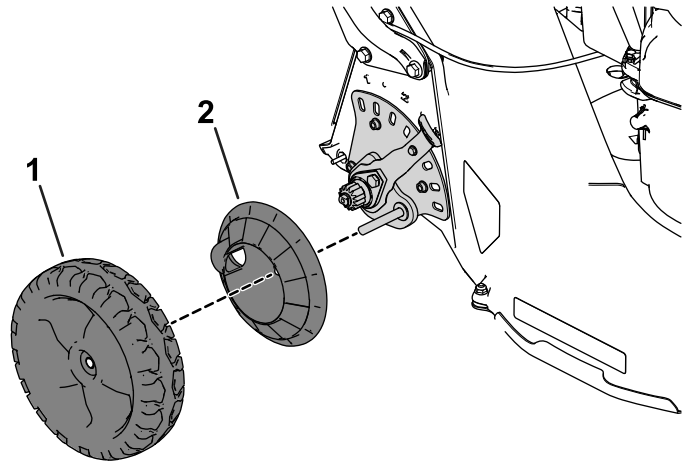

Figure 3
2. Remove the wheel assembly and wheel cover (Figure 3).
5. Install the wheel cover and wheel assembly (Figure 3).